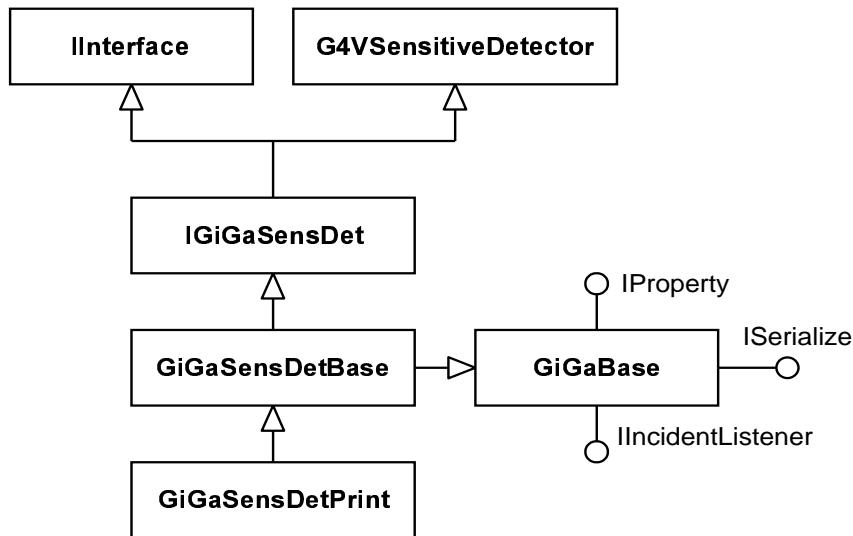

Figure 4.3: The class diagram for **GiGaSensDetBase** class
**GiGA** provides the possibility of instantiation of such objects using abstract factories approach. To get this behaviour the intermediate abstract interface **IGiGaSensDet** is defined by merging **G4VSensitiveDetector** and **IInterface** interfaces. Then one could reuse the standard approach of abstract factories to instantiate such objects. The simplified class diagrams are shown on figure 4.3.